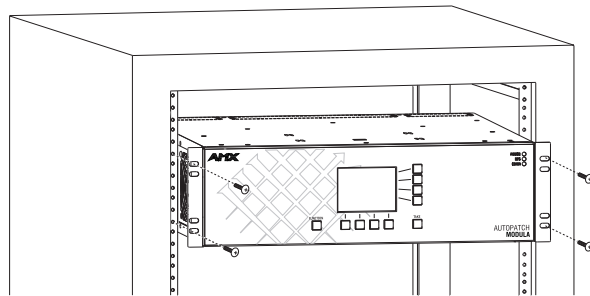

FIG. 10 Place enclosure in rack and secure with screws
2. Place the enclosure in the rack and attach front-mounting screws to hold it firmly in place (FIG. 10); repeat for any additional enclosures.